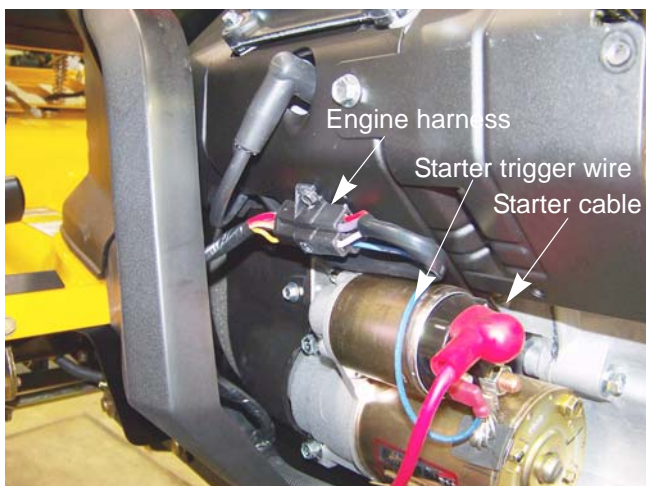

Figure 2.22
8. Disconnect the starter wires. See Figure 2.22.